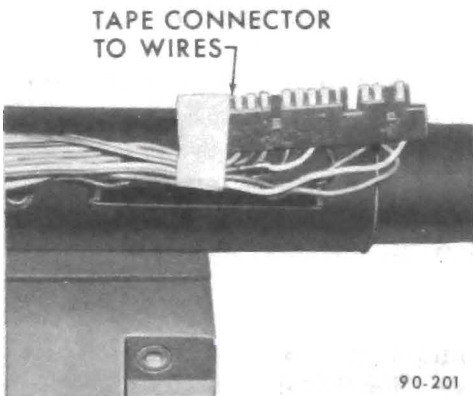

Figure 90-109 Tape Connector to Wires
8. Remove three turn signal switch mounting screws. Pull the connector out of the bracket on the jacket. Wrap a piece of tape around the upper part of the connector and wires to prevent snagging when removing switch. See Figure 90-109.